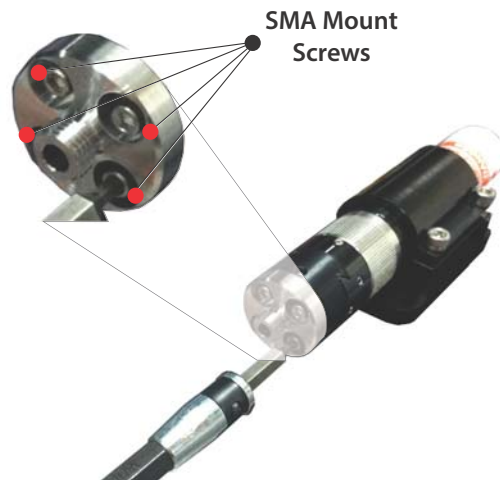

Figure 2-34. Set the SMA Mount
5. Using the 5/64-inch hex driver, use minimal pressure to lightly seat the four screws holding the SMA mount to the dovetail, as shown in Figure 2-34.